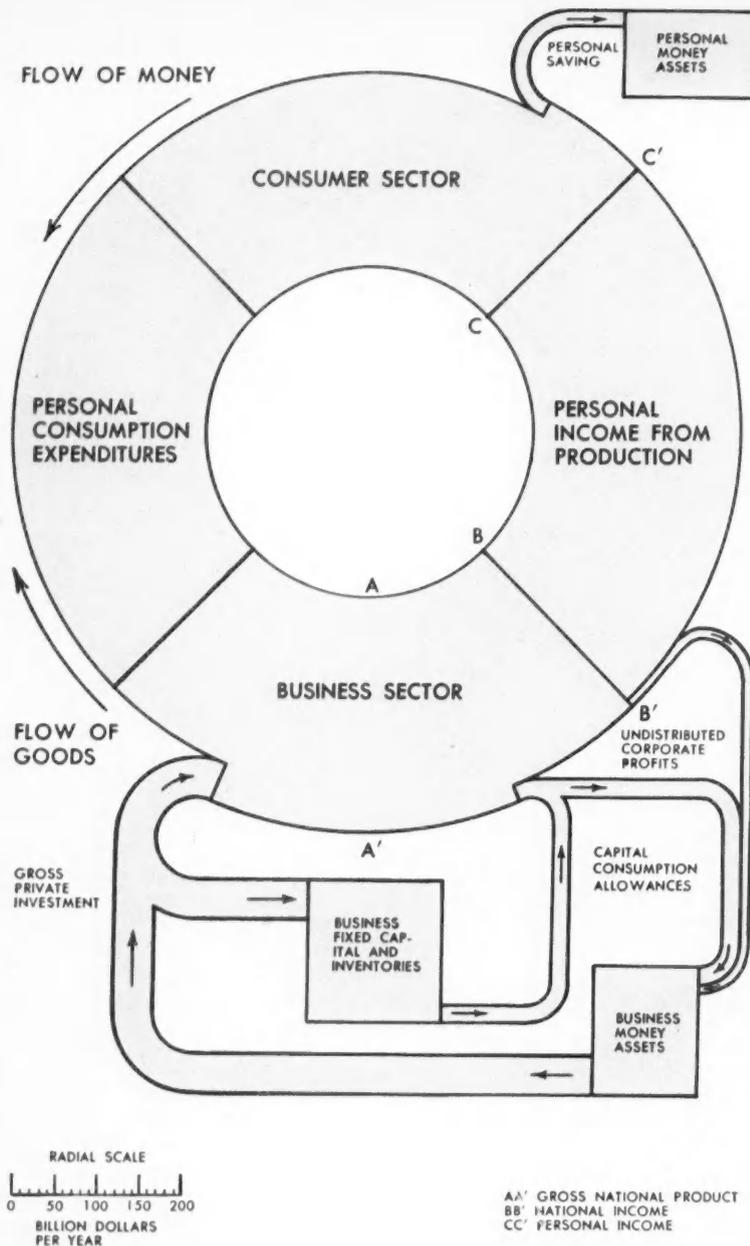

FIG. 2. CIRCULAR FLOW REPRESENTS OUR ACTUAL ECONOMY, MINUS GOVERNMENT SECTOR.
Fig. 2 shows a circuit representing our actual economy, with the government sector omitted.
You start with the consumer sector and trace money flows counterclockwise. As before, personal consumption expenditures flow down from the consumer sector to the business sector. (The radial width of the channel is proportional to the magnitude of the flow. See scale in lower left corner of Fig. 2.) Business purchases of buildings, machinery, and inventory investment add a flow of money to the central circuit; it is labeled gross private in-
If you imagine that the flow of gross private investment (Fig. 2) is widened, you are then faced with the necessity of following counterclockwise around the circuit the income paid out for the production of the added investment goods. Part of the added income will be withdrawn as capital consumption allowances and undistributed corporate profits, but most of it will flow to the consumer sector. There, part will go to personal savings, but most of it will increase personal consumption expenditures. And this requires a greater output of gross national product, over and above the original increase in output of investment goods. The added output of consumer goods will send more income back around the circuit, give rise to added consumer spending, and so on—round and round the circuit in decreasing increments.
The neutron velocity selector (Fig. 2) utilizes a 100-Mev betatron as the source of neutrons. Electrons accelerated to 50 Mev—they move with the velocity of light—in the betatron bombard a one-cubic-inch block of natural uranium to produce neutrons. (High-energy x-rays given off when the electrons strike the uranium target excite and disintegrate the nuclei—partly by the direct emission of neutrons and partly by a different kind of fission than that caused by neutron bombardment.)
**FIG. 2. VELOCITY SELECTOR** measures time of flight of neutrons traveling fixed distance  $L$ . Betatron rated 100 Mev emits bursts of neutrons every one-sixtieth second.